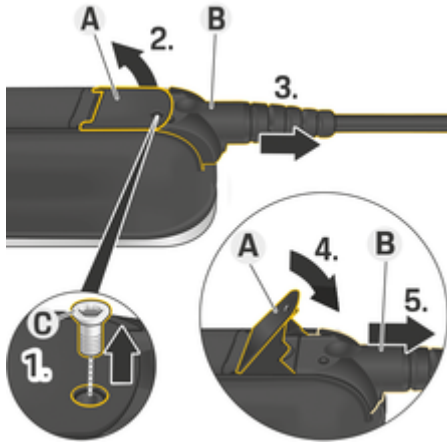

Fig. 11: Disconnecting cable
1. Loosen screw **C** (Fig. 11) using a suitable tool.
2. Raise lever **A** (Fig. 11).
3. Pull out plug **B** (Fig. 11) to the first resistance.
4. Close lever **A** (Fig. 11).
5. Pull out plug **B** (Fig. 11) completely.